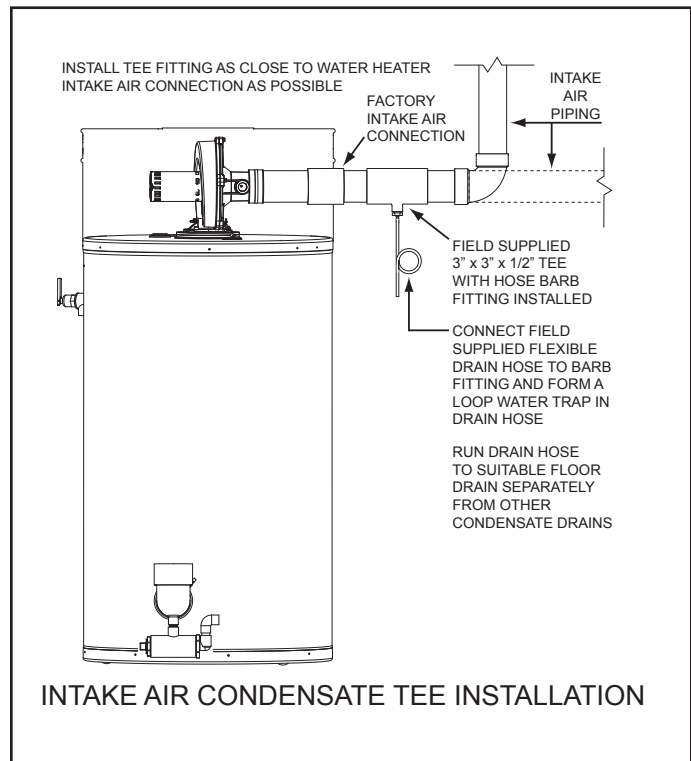

Figure 21
9. A field supplied condensate Tee fitting and drain hose should be installed in the intake air piping near the water heater in colder climates with heavy snow accumulations and in areas that regularly experience high humidity. The drain hose should be routed to an adequate floor drain separate from any other condensate drains. See Figure 21 on page 26.